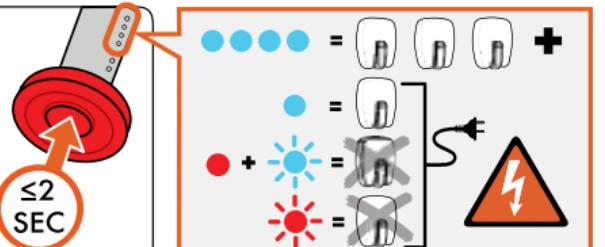

Figure 7
1. Unzip the Deployment Handle Pocket (1b) in the left shoulder strap and expose the Deployment Handle (1c). Also see Figure 7.
1. After arming, the system should show a pulsing green System Status Light (1e) indicating the system is armed and ready for deployment. Also see Figure 7.